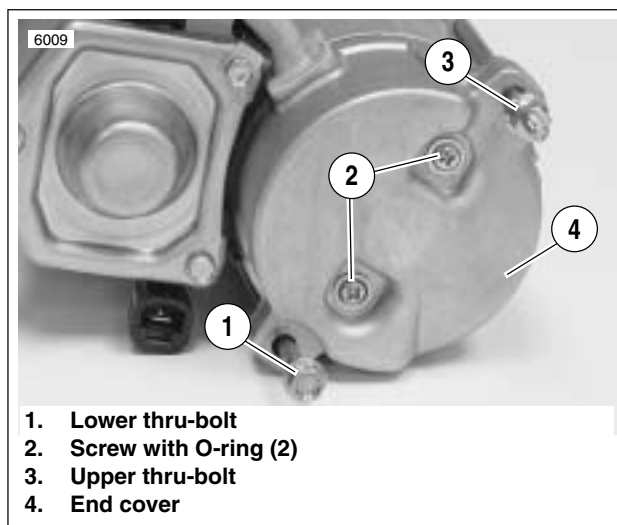

Figure 5-15. Removing the Thru-Bolts
2. See Figure 5-15. Remove both thru-bolts (1, 3).
3. Remove both end cover screws with O-rings (2) and end cover (4).